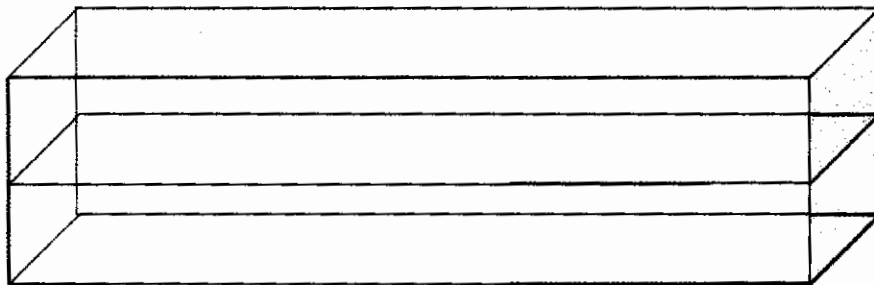

Figure Q3-1: Rectangular sedimentation tank in which extra bottom is provided in the middle of the tank.
- 3E.** As a demonstration of the efficiency of tube settlers, calculate the change in design settling velocity V_s of a particle for a given rectangular sedimentation tank of plan area $A \text{ m}^2$ carrying a water flow of $Q \text{ m}^3/\text{sec}$ in which an extra bottom is provided at the middle as shown in Figure Q3-1 below.[5 marks]